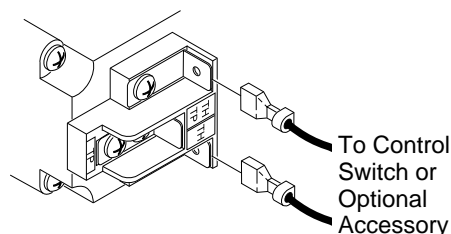

Figure 46 - Control Valve Terminals
1. Connect one terminal of 25 ft. wire for the wall switch to the TPTH terminal on the valve. Connect remaining wire terminal to the TH terminal on the valve. Make sure that the wire terminals are in the positions on the unit as pictured in Figure 46. If wires are not connected as shown the switch will not work.
3. Connect one terminal of the wire for the wall thermostat to the THTP terminal on the valve. Connect remaining wire terminal to the TH terminal on the valve. Make sure that the wire terminals are in the positions on the unit as pictured in Figure 46, page 22. If wires are not connected as shown the thermostat will not work.
2. Disconnect wires from THTP and TH on control valve that lead to the switch (see Figure 46, page 22). Discard switch plate, screws, and nuts.
- Connect the wires from the receiver to the valve at TH and THTP (see Figure 46, page 22).